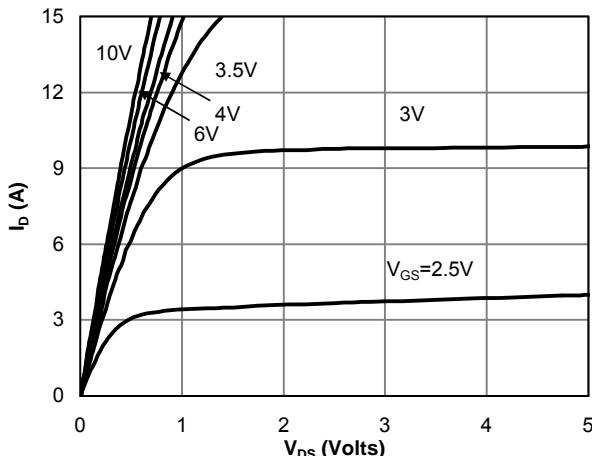

Fig 1: On-Region Characteristics
D. The static characteristics in Figures 1 to 6,12,14 are obtained using 80μs pulses, duty cycle 0.5% max.